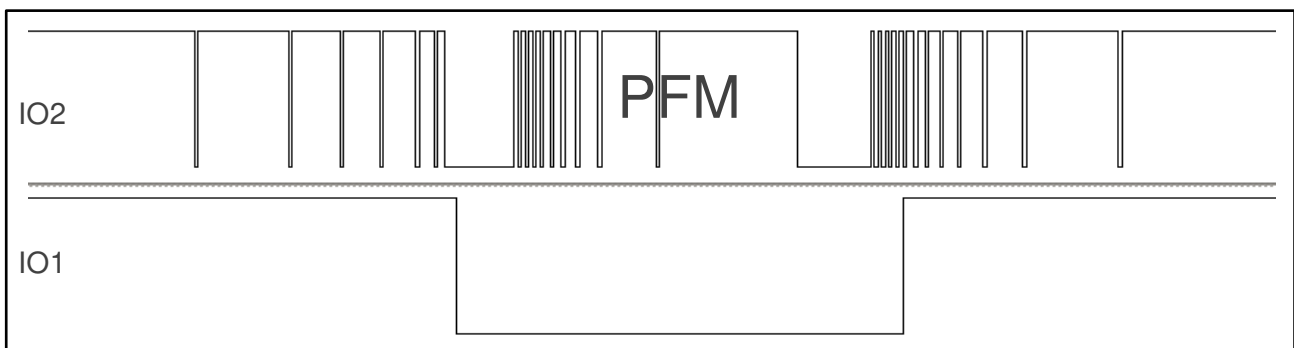

Figure 5.3 Movement (PFM) and Activation Output
**‘00’** – The default pulse frequency modulated (PFM) signal indicates intensity of movement by the density of pulses. This is a relatively slow output that may trigger occasional interrupts on the master side. See Figure 5.3. Most intense detectable movements are indicated by active low pulses with 10ms width (20ms period). Saturated movement intensity is indicated by a constant low.